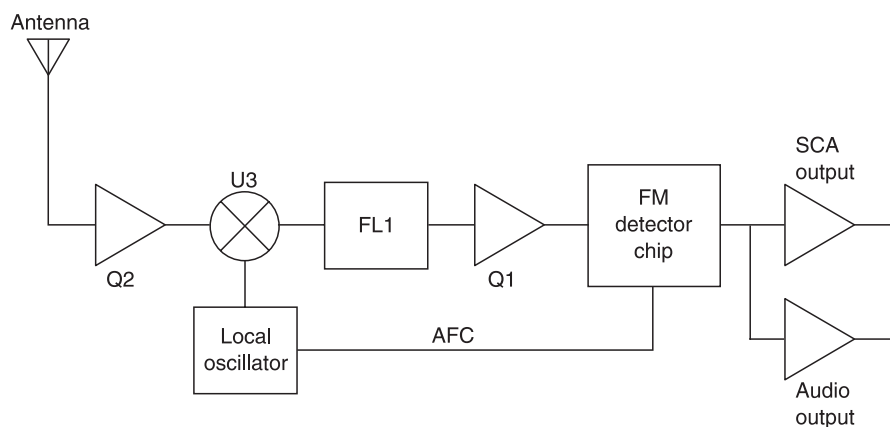
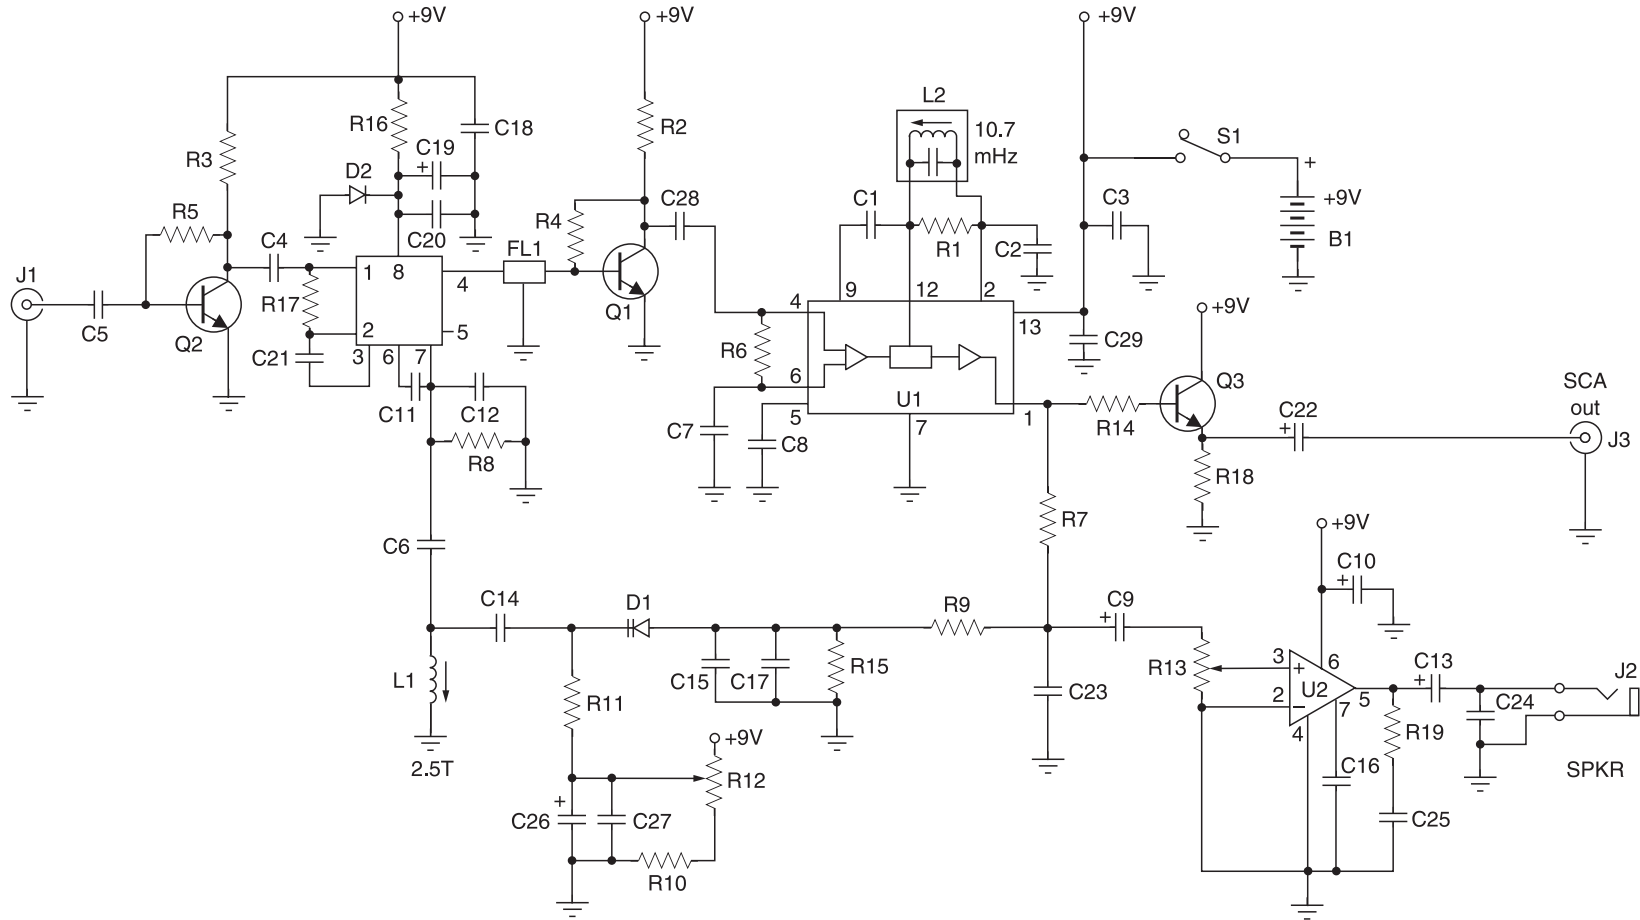

Figure 6-3 *FM broadcast receiver block diagram*
Figure 6-4 FM broadcast receiver. Courtesy of Ramsey Electronics
The FM receiver block diagram in Figure 6-3 illustrates the fundamentals of FM reception. The schematic diagram of the FM broadcast receiver is depicted in Figure 6-4. FM broadcast signals captured by the whip antenna or from the input jack are applied to the RF amplifier Q2, a high gain, low noise microwave style transistor. Input signals are amplified about 100 times or equivalent to 20 dB. After being boosted, these input signals are routed to the SA602 mixer-oscillator chip for conversion down to the 10.7 MHz Intermediate Frequency (IF). The SA602 is a very popular chip used in a great variety of receivers from cellular telephones to satellite receivers. The reason for its popularity is that it contains most of a receiver’s “front end” circuitry on a single, easy-to-use chip. Internal to the SA602 is an oscillator tuned by an external tank circuit; C11, 12, L1 and varactor diode D1. A varactor diode acts like a voltage variable capacitor and the voltage applied across it comes from tuning pot R12. This IF signal is an exact reproduction of the desired signal, but at 10.7 MHz. We then band-pass filter it with ceramic filter FL-1.